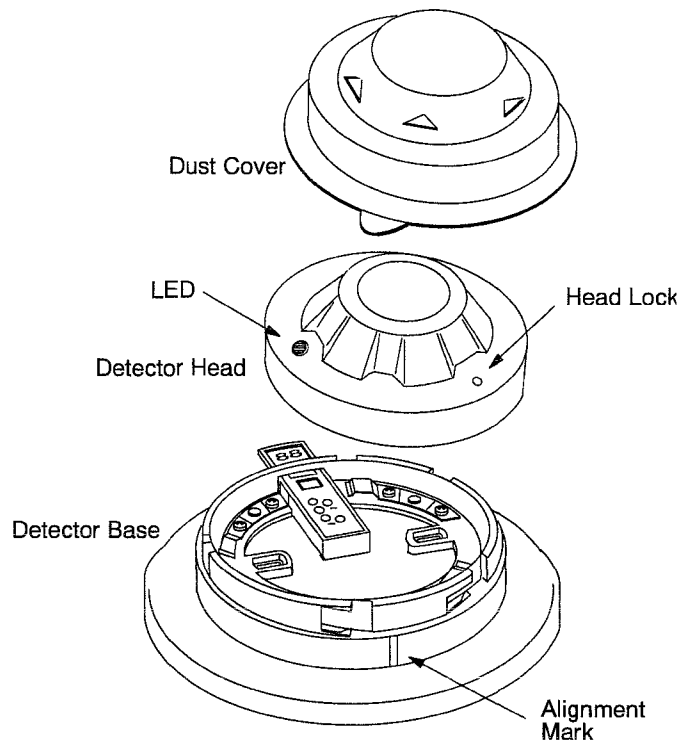

Figure 17 Detector Installation
2. Align the LED on the side of the detector head with the alignment mark on the base. See Figure 17.
6. Detector Removal--Reverse the installation procedure. Unlock the head by inserting a 1/16-inch hex wrench into the head lock and turn counter-clockwise (see Figure 17). Turn the detector head counterclockwise.